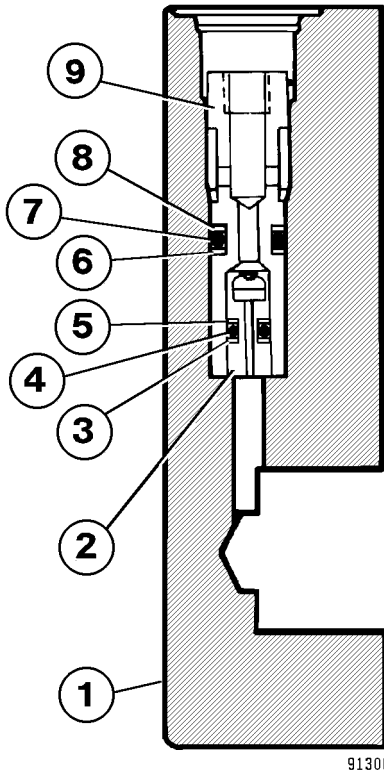

FIGURE 8-6. RESTRICTOR POPPET REMOVAL
*NOTE: If removal of the restrictor poppet in cover (2) is required, refer to Step 4 and Figure 8-6.*
4. Remove sleeve (9, Figure 8-6), backup ring (8), O-ring (7), backup ring (6). Remove backup ring (5), O-ring (4), backup ring (3) and restrictor poppet (2).
2. If restrictor poppet (2, Figure 8-6) was removed, reassemble in the order shown.